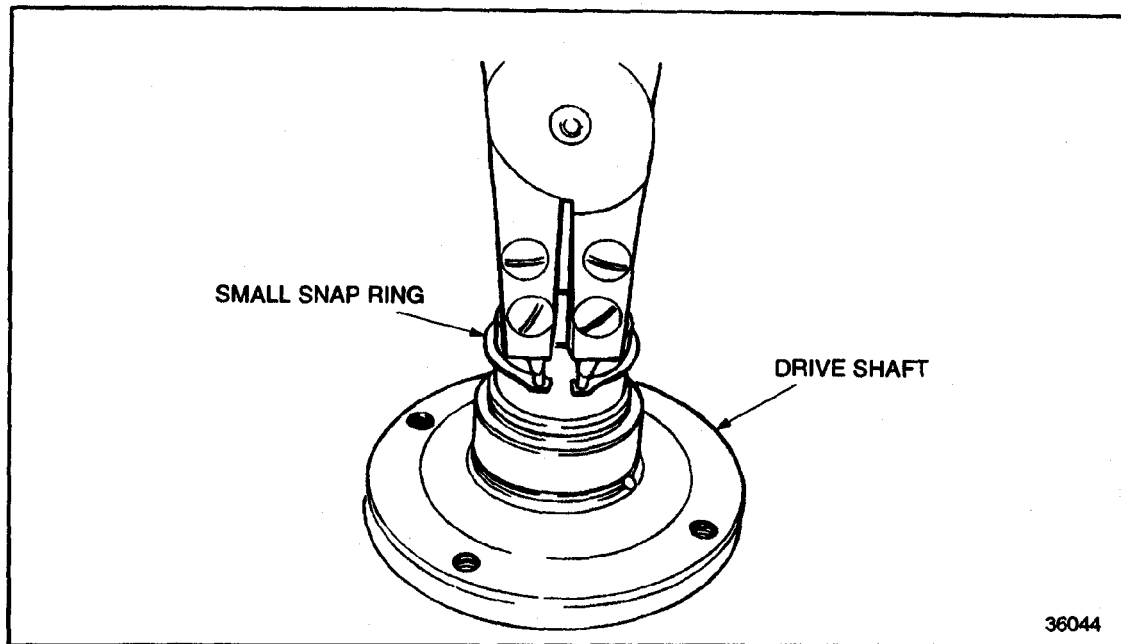

Figure 10-20 Ball Bearing Snap Ring Removal
15. Using the snap ring pliers, turn the drive assembly over, and remove the large snap ring retaining the roller bearing in the air compressor drive housing. See Figure 10-20.